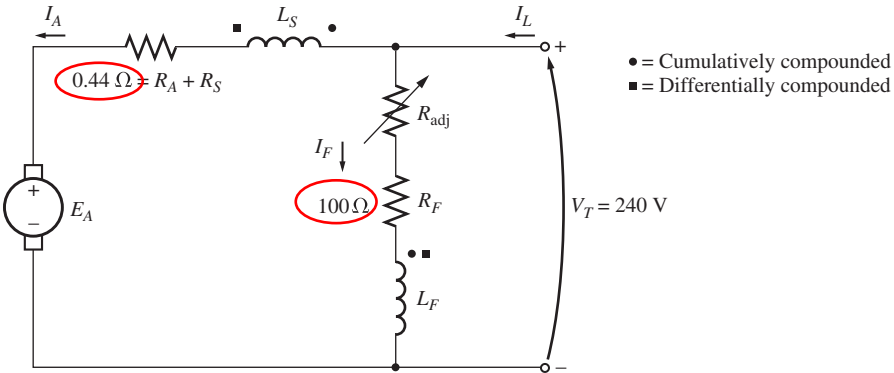

FIGURE P9-4
- 9-10.** If the motor is connected cumulatively compounded as shown in Figure P9-4 and if $R_{adj} = 175 \Omega$, what is its no-load speed? What is its full-load speed? What is its speed regulation? Calculate and plot the torque–speed characteristic for this motor. (Neglect armature effects in this problem.)